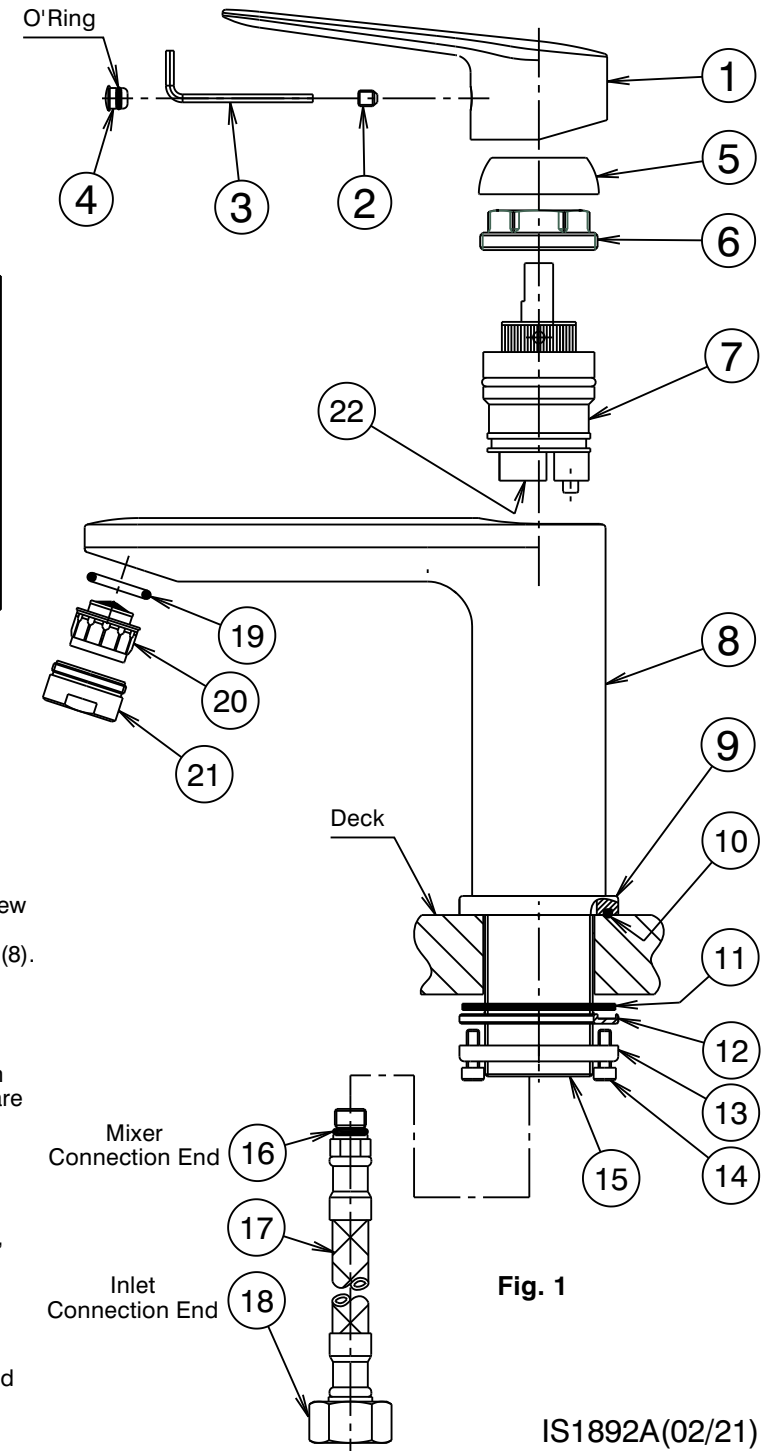

Fig. 1
- 1) From fixing pack fit 'O'ring (10) into groove in base ring (9). Slide the base ring over the threaded tube (15) & locate spigot of base ring (9) into base of mixer body (8), as shown.
- 2) *Flexible Tail Mixer Connections:* Apply suitable lubricant to 'O'rings (16). Fit flexible tail (17) (with red indication) into inlet hole marked with a Red Dot in underside of mixer body (8). Hand tighten the tail, ensuring the 'O'ring (16) has fully entered the sealing bore to provide a watertight joint. Fit other flexible tail (with blue indication) into remaining hole in a similar manner.
- 3) Insert the inlet connection end (18) of each flexible tail (17) through the hole in the deck. Insert threaded tube (15) of mixer (8) into deck hole, fit washer (12) together with flat seal (11) over threaded tube of mixer as shown in Fig. 1. Screw clamp ring (13) onto threaded tube until it contacts washer (12) & the flat seal (11) has contacted the underside of the deck. Tighten two screws (14) equally using a 3mm allen key until mixer assembly is clamped firmly to the deck. DO NOT OVERTIGHTEN.
- 4) *Flexible Tail Inlet Connections:* Connect the flexible tails (17) to the hot and cold isolating stop taps, hand tighten the connecting nut (18) until rubber cone contacts the sealing face of the connection end, then tighten a further one turn to provide a watertight joint. **Important:** Flexible tails must not be kinked, twisted or in tension when installed. (Minimum Bend Radius:- 50mm) Do not install flexible tails where subject to ultra violet light.